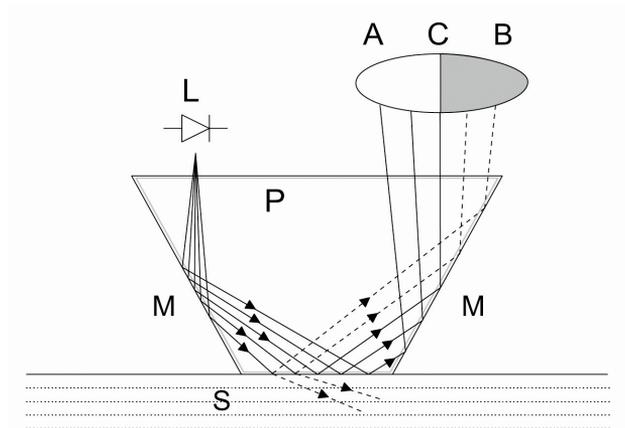

Figure 1-2 Refractometer Principle
The **PrismaTech**[®] inline refractometer sensor determines the refractive index n_D of the process solution. It measures the critical angle of refraction using a yellow LED light source with the same wavelength (580 nm) as the sodium D line (hence n_D). Light from the light source (L) in **Figure 1-2** is directed to the interface between the prism (P) and the process medium (S). Two of the prism surfaces (M) act as mirrors bending the light rays so that they meet the interface at different angles.